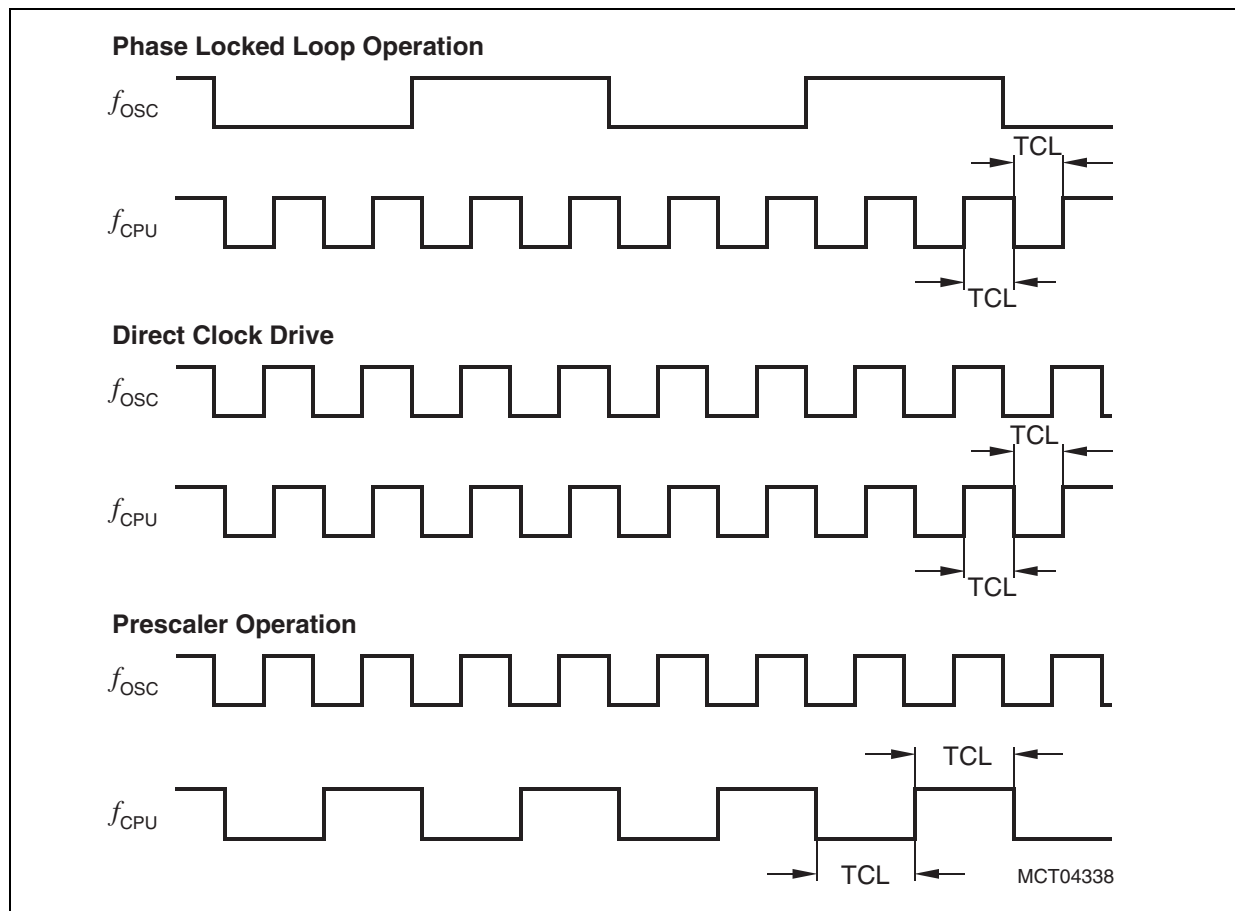

Figure 11 Generation Mechanisms for the CPU Clock
The specification of the external timing (AC Characteristics) therefore depends on the time between two consecutive edges of the CPU clock, called “TCL” (see **Figure 11**).
*Note: The example for PLL operation shown in **Figure 11** refers to a PLL factor of 4.*